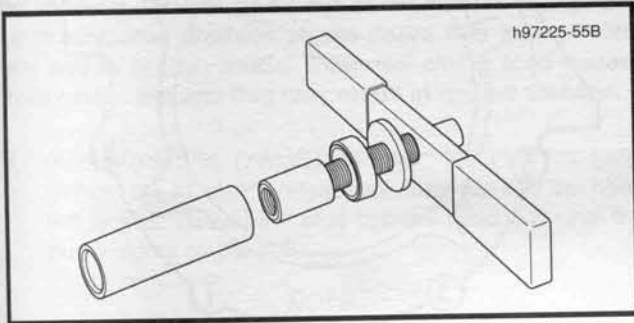

Figure 3-86. Sprocket Shaft Bearing Tool (Part No. HD-97225-55B)
1. Obtain SPROCKET SHAFT BEARING TOOL (Part No. HD-97225-55B). See Figure 3-86.